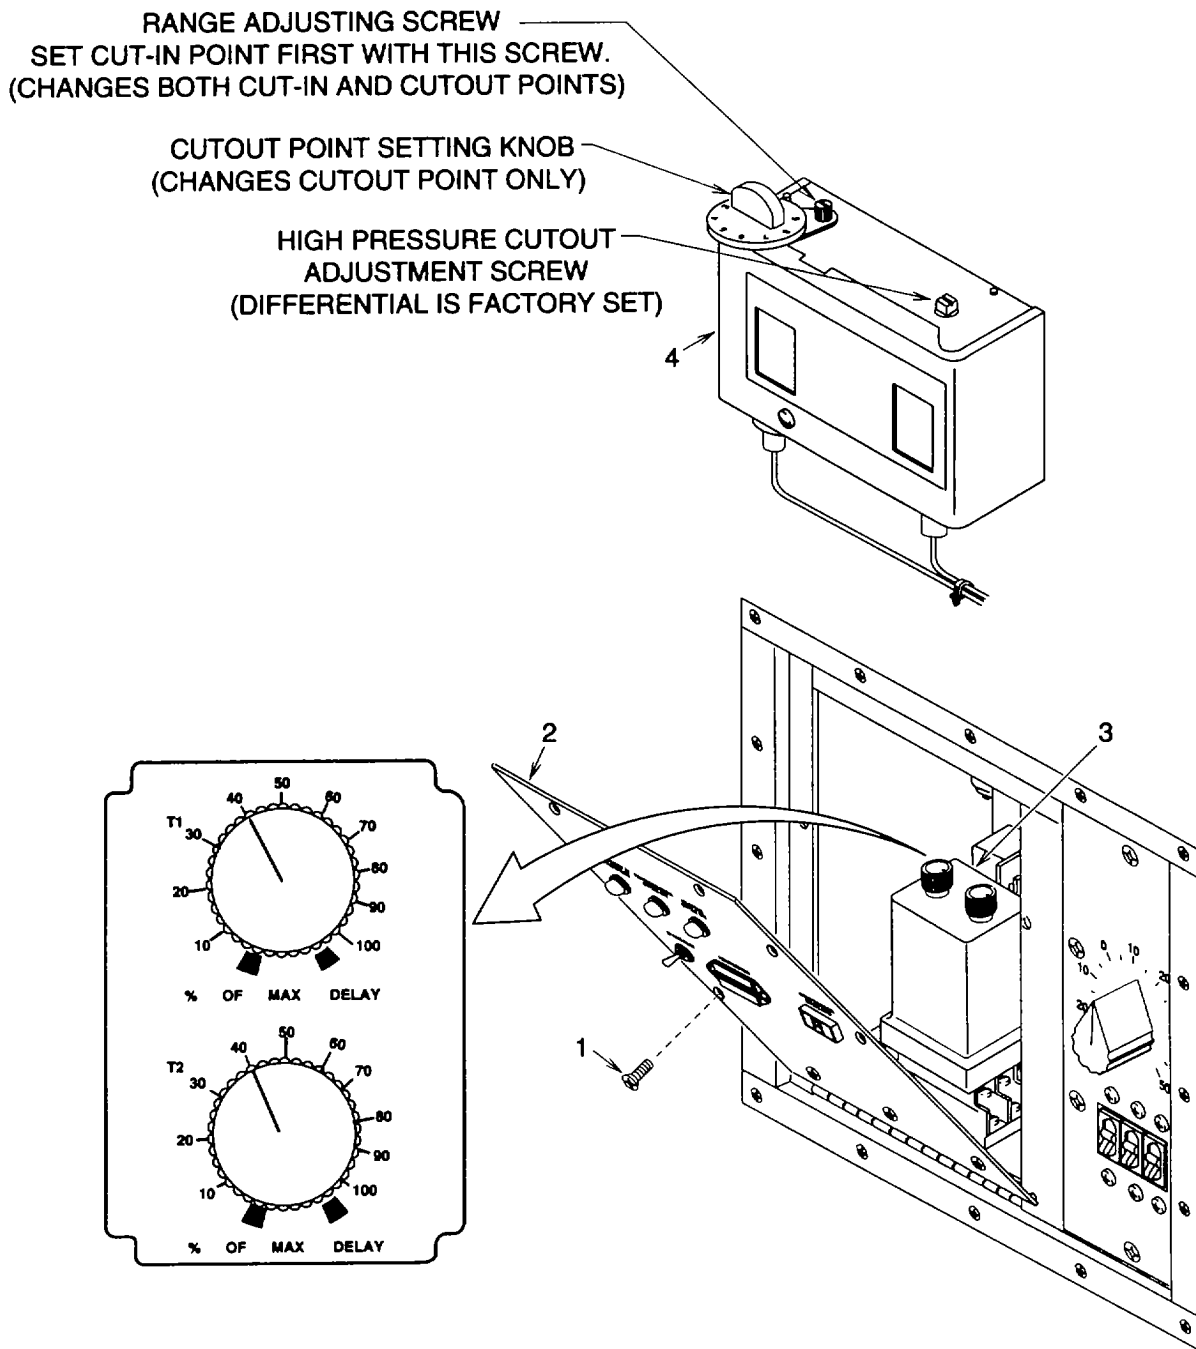

Figure 4-6. Preliminary Adjustment
b. Remove six screws (1, fig. 4-6). Open the control box cover (2).
- c. Adjust the defrost timer (3) control T1 to approximately 25% (6 hours) and control T2 to approximately 2% (30 minutes). This is the recommended factory setting, however, the controls can be set as desired to best suit the operating conditions.
- d. Close the control box cover (2). Install six screws (1).
- f. Adjust dual pressure control switch (4) HIGH PRESSure CUTOUT to 305, low pressure CUT IN to 0, and low pressure CUTOUT to 15 IN. VAC.